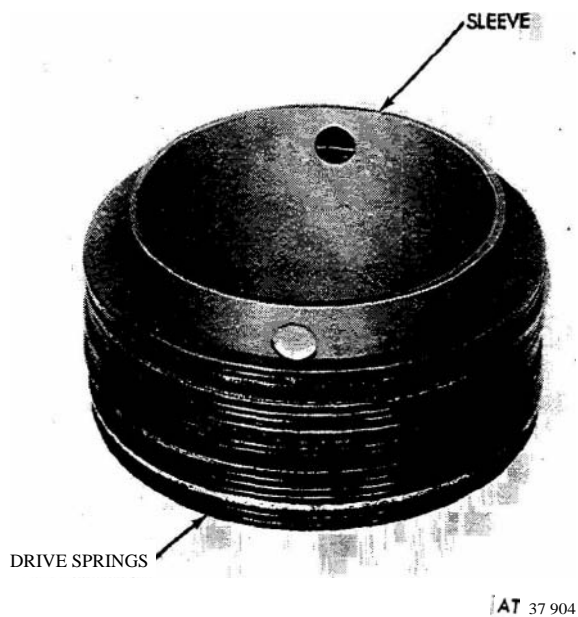

Figure 3-108. Drive springs assembled on sleeve (11660113)
(10) Position a stack of three drive springs (8) with concave surfaces facing out, followed by a spacing washer (9), on sleeve (5, fig 3-102). Position another stack of springs with concave surfaces facing in, followed by a spacing washer. Repeat procedure until all five stacks of drive springs are installed on sleeve, alternating direction, of concave surfaces of the stacks of drive springs (fig 3-108).